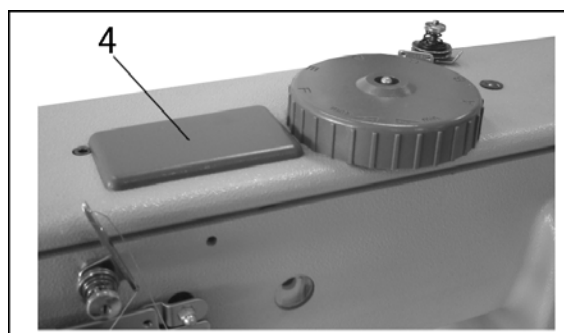

Fig.35
25) Adjusting the presser foot timing(Fig.35)